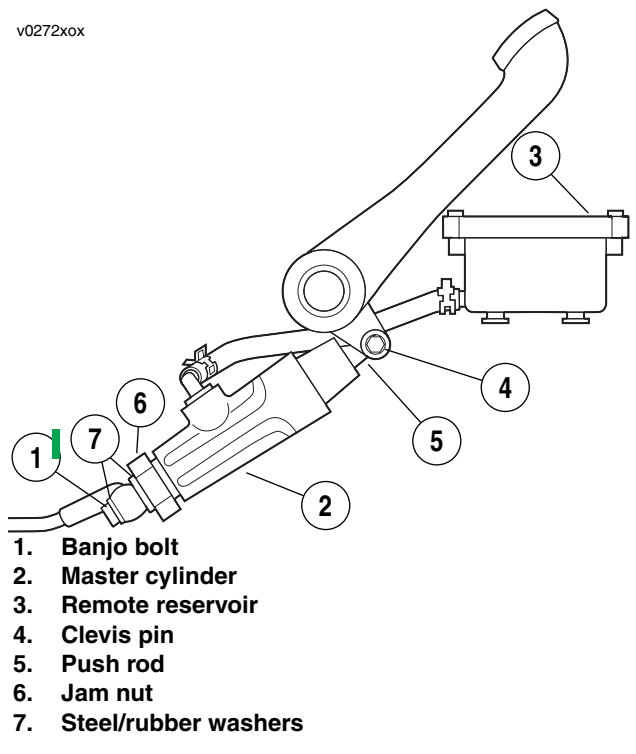
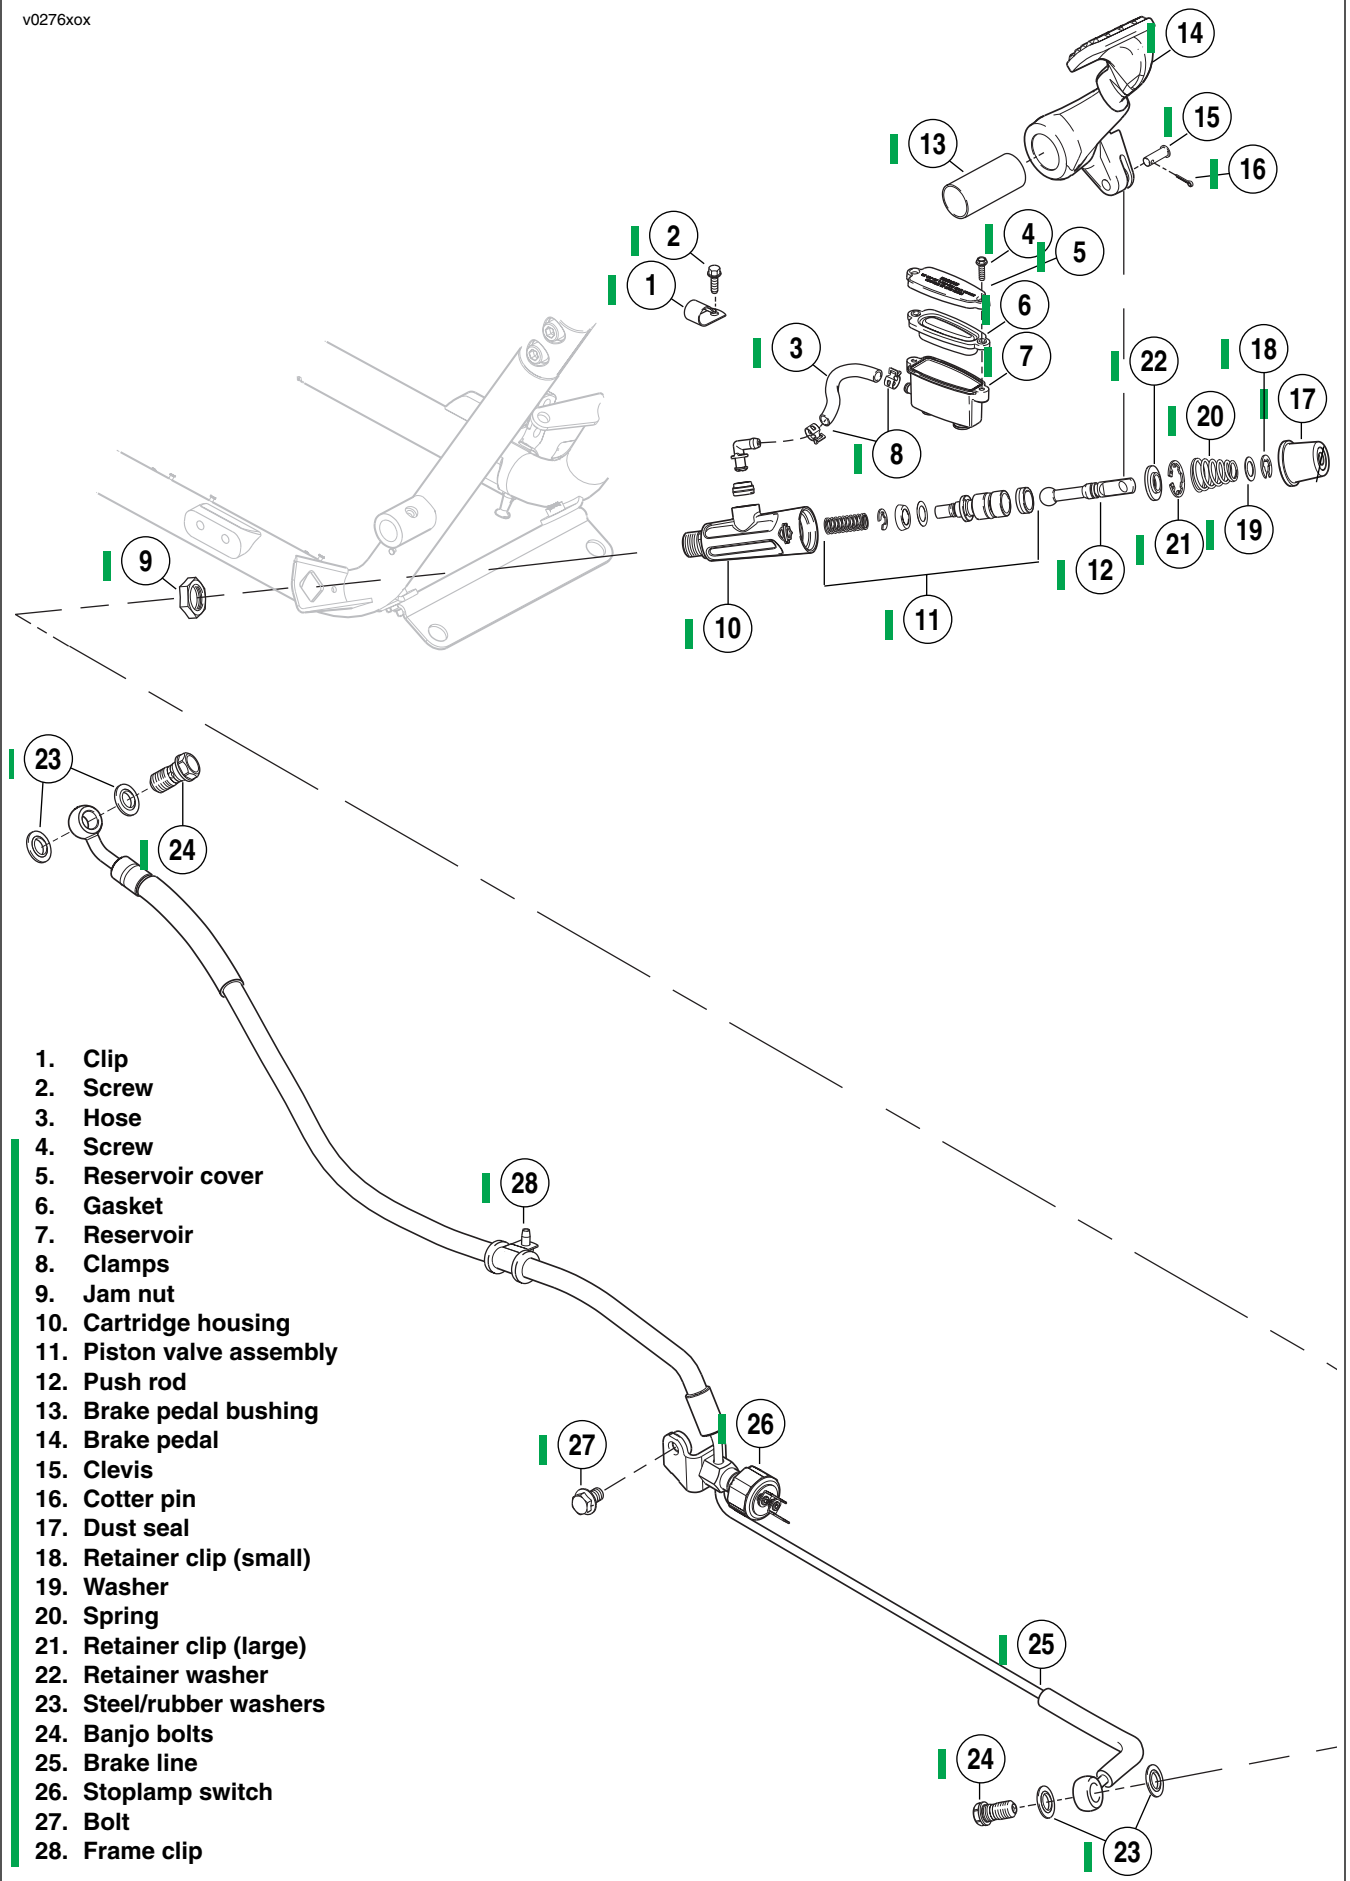

Figure 2-57. Rear Brake Master Cylinder & Reservoir
Figure 2-58. Rear Brake Master Cylinder/Reservoir
3. See Figure 2-57. With a suitable container under the master cylinder, remove the banjo bolt (1). Discard the two steel/rubber washers (7).
4. Remove the clip from the clevis pin (4).
5. Cover the outside face of clevis pin (4) with cardboard and using a large pliers, squeeze the pin until the pin shoulder pops out of its interference fit with the clevis. Remove the clevis pin.
6. Remove the brake rod (5) from the clevis.
8. Remove jam nut (6) to free master cylinder from mounting bracket.
- See Figure 2-58. Remove reservoir cover (5) and gasket (6).
1. See Figure 2-58. Route remote reservoir (7) and hose (3) behind rear brake pedal (14). Press reservoir mounting studs into slots on radiator cover.
2. Fit square on bottom of master cylinder cartridge housing (10) into square hole of mounting bracket.
3. See Figure 2-57. Install the clevis pin (4) through the brake pedal clevis and master cylinder push rod (5).
4. Cover the face of clevis pin (16) and clevis with cardboard. Holding the brake pedal firmly, tap on a rod to seat shoulder of clevis pin into clevis. Install **new** clip.
5. Apply LOCTITE® 243 (blue) to threads of jam nut (6). Thread jam nut (10) on cartridge housing and tighten to 41-54 Nm (30-40 ft-lbs).